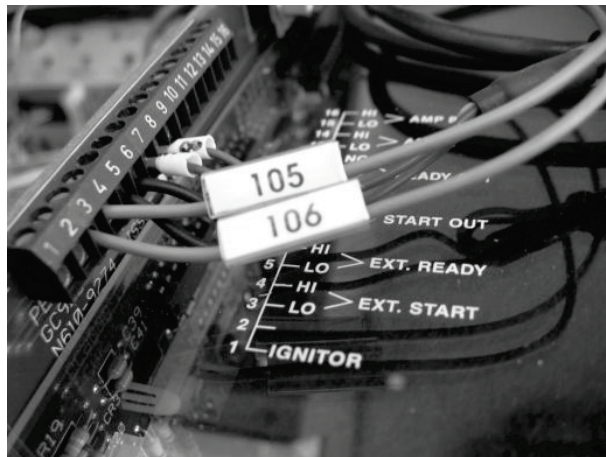

Figure 34 Connecting the remote I/O cable to GC external start connections
23. Insert the I/O cable under the top cover and connect wires 105 and 106 to GC connector positions 3 and 4, respectively (Figure 34).